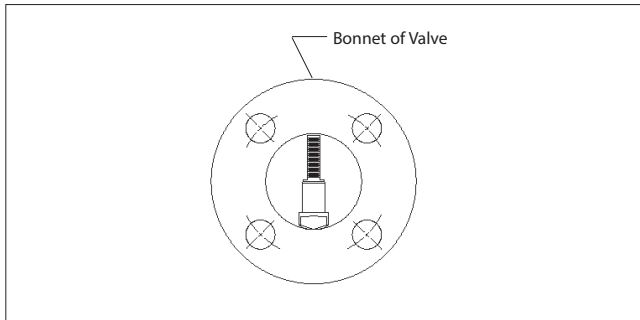

Figure 7. Stem Orientation
- D. Roll the entire valve on its flanges until the bonnet faces up. Then rotate the stem  $\frac{1}{4}$  turn. The stem subassembly should look like (Figure 7) as seen from the insert end of the valve.